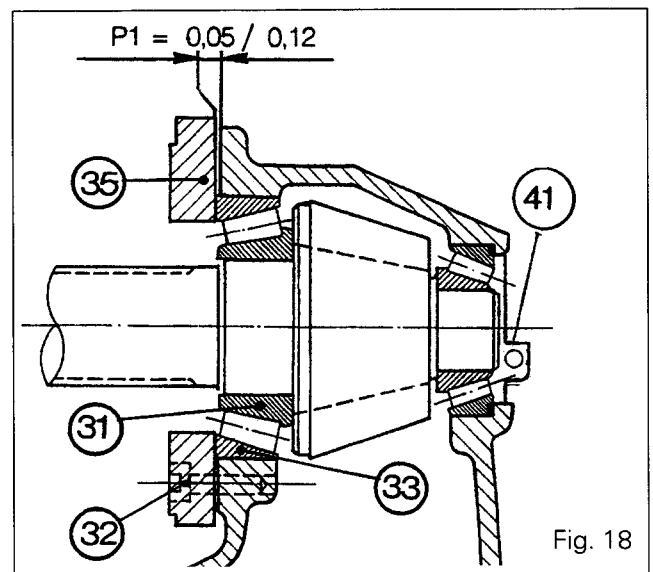

Fig. 18
80. In order to prepare shimming **P1**, determine a shim thickness greater than the dimension "a" by which the cup **(33)** protrudes from the face of the housing (Fig. 18) so as to obtain a play of 0.10 to 0.15 maximum.
82. Fit the bolts (32), remove the guide studs and tighten to a torque of 90 - 120 Nm.
83. Carry out shimming (Fig. 18) to obtain: